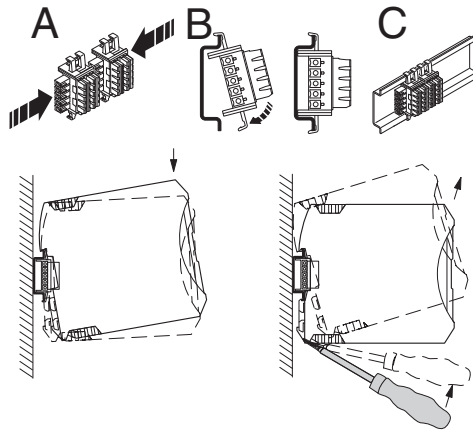

Figure 4 Assembly and Removal
- When using the DIN rail connector, first place it into the DIN rail (see A – C, Figure 4). It is used to bridge the power supply.